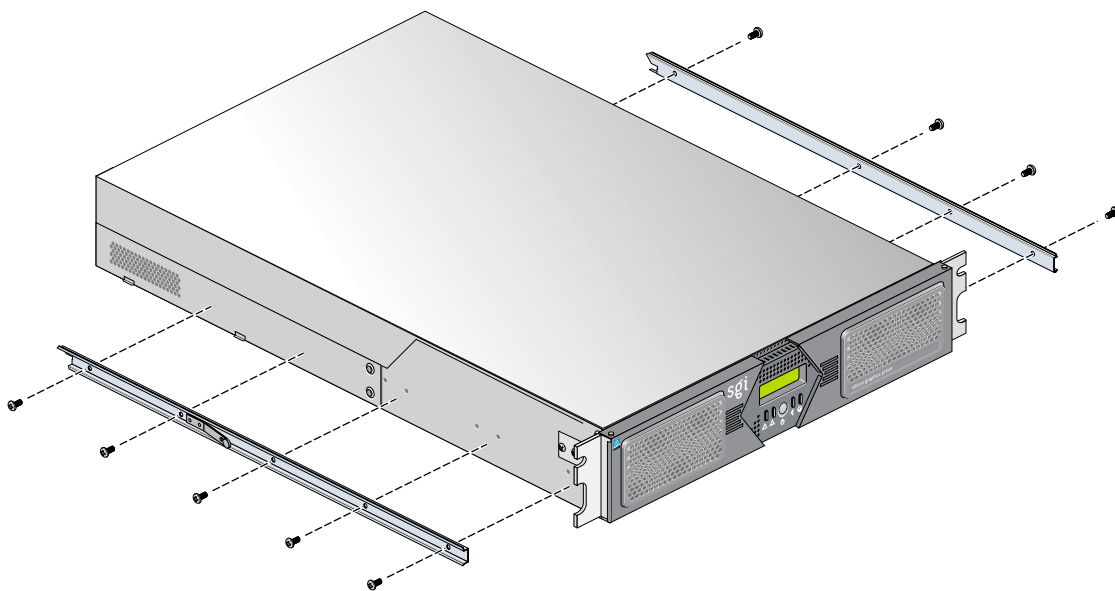

Figure B-3 Attaching Optional Chassis Rails to the Module Chassis
2. Using four 10-24 x 1/4-inch screws, attach one of the chassis rails to the right side of the module chassis. Ensure that the rail is installed in the correct direction (see Figure B-3).